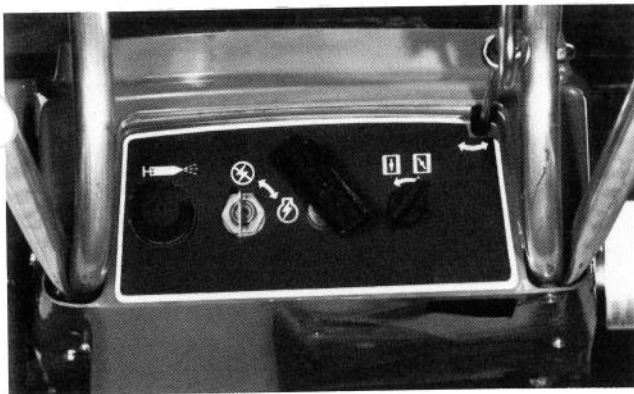

Figure 7
2. Rotate choke clockwise (Fig. 7).
3. Put thumb on center of primer so hole is covered and sealed (Fig. 7). Depending upon temperature at which the machine is stored, push the primer one to four times. For temperatures above  $-7^{\circ}\text{C}$ , use one or two primes; below  $-7^{\circ}\text{C}$ , use three or four primes; for extremely cold temperatures below  $-23^{\circ}\text{C}$ , use five to six primes.
4. Turn ignition key to ON (Fig. 7).
5. To start S200 Recoil Start, put one hand on the lower handle to steady the snowthrower. Next grasp recoil starter handle (Fig. 7) and pull vigorously to start engine. If engine does not start after four pulls, prime engine again as described and pull recoil starter handle four more times. Repeat this procedure until engine starts.
1. Turn ignition key to OFF (Fig. 7).